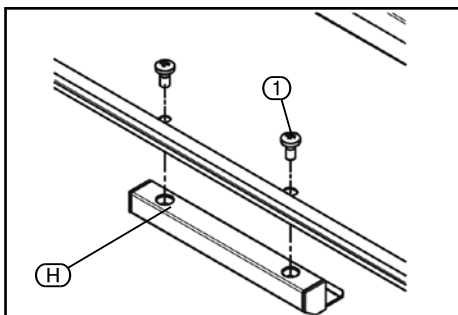

FIG. 2
8.2 ATTACHING HANDLES – FIG. 2